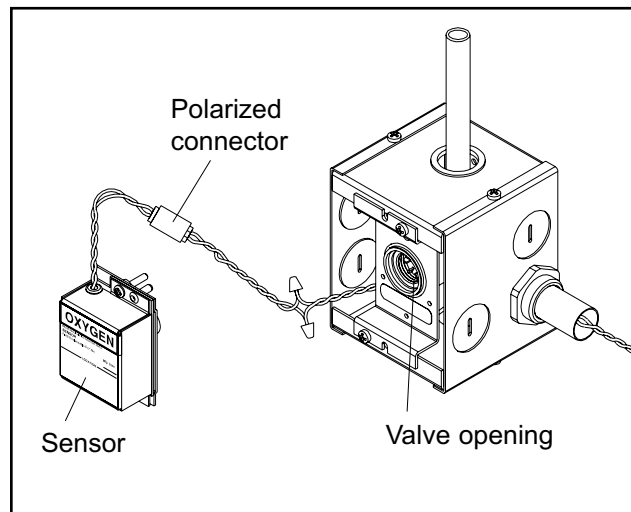

Figure 16: Sensor Module Connection
3. Join polarized connector in sensor mounting box to mating connector on sensor module. Refer to Figure 16.
4. Insert sensor into valve opening in sensor rough-in. An indexing pin provides for proper orientation and prevents gas service cross-connection. Push sensor all the way in and secure with (2) #6-32 x 1-1/4" screws.